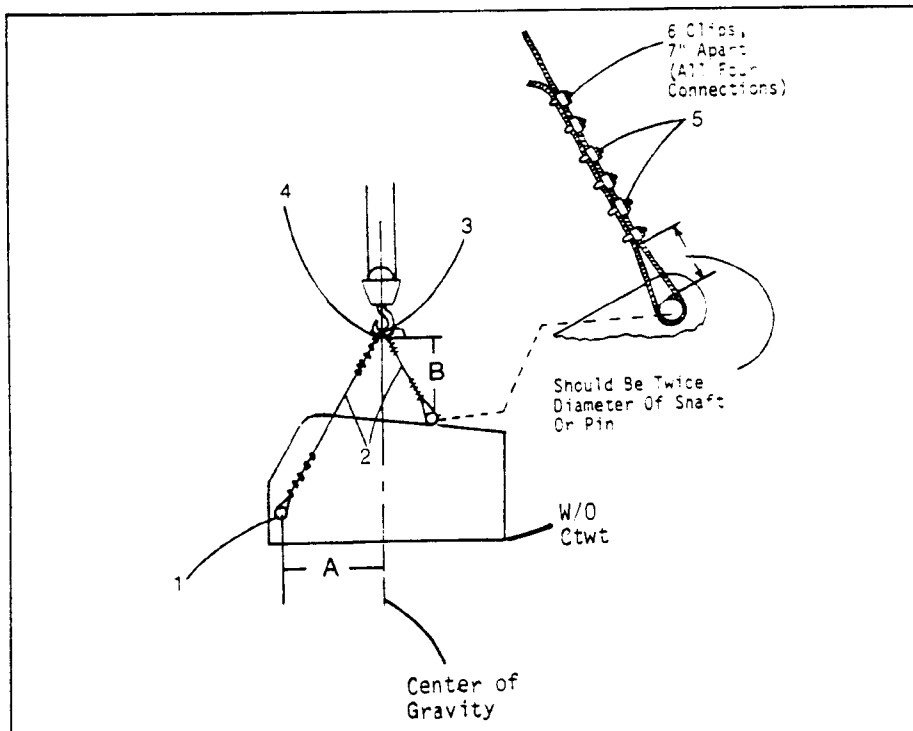

Fig. 1
The sling must have four legs and be strong enough to lift the upper. If using wire rope, use a minimum 1" diameter rope with a minimum breaking strength of at least 51 tons. FMC type N rope is recommended. Use new rope straight off the reel for making up the sling. Never use used, scrapped, or damaged rope for a sling as an accident may occur. Refer to Fig. 1 for more information. See Section 8 in Operator's Manual for information on installation of wire rope clips. Use 6 clips, 7" apart at all connections.
- Install sling assemblies on the machine. See Fig. 1, and steps a, b, c, under undecking procedure.